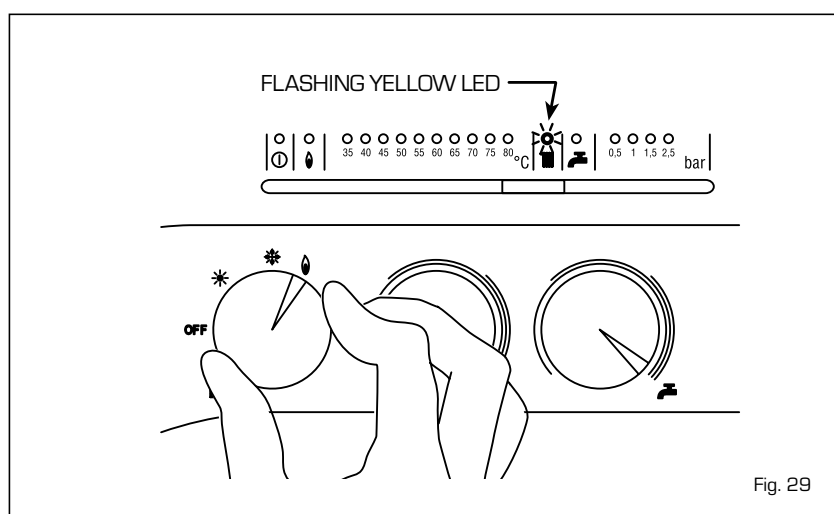

Fig. 29
To carry out the verification of combustion in the boiler, turn the selector and stop on the position (0) until the yellow led (III) starts to flash intermittently (fig. 29).